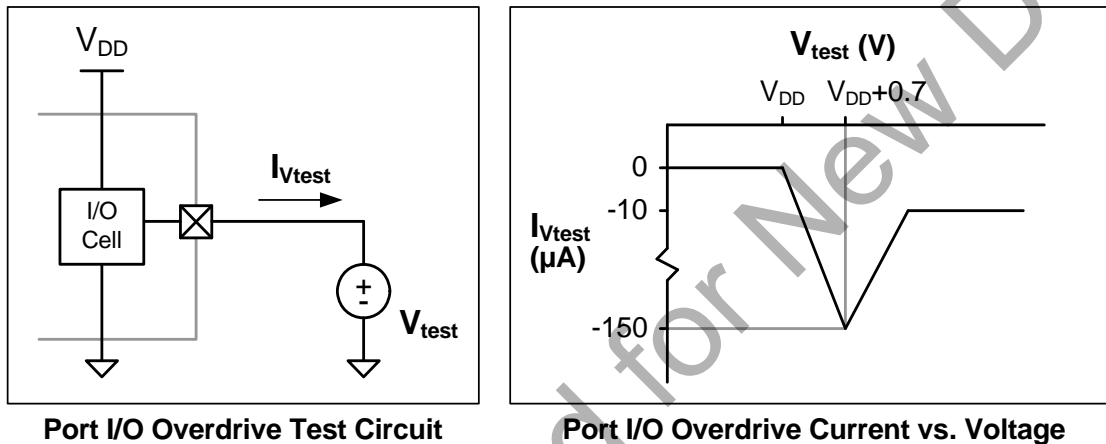

Figure 28.3. Port I/O Overdrive Current
**Important Note:** In a multi-voltage interface, the external pull-up resistor should be sized to allow a current of at least 150  $\mu\text{A}$  to flow into the Port pin when the supply voltage is between  $(V_{DD} + 0.6\text{V})$  and  $(V_{DD} + 1.0\text{V})$ . Once the Port pin voltage increases beyond this range, the current flowing into the Port pin is minimal. Figure 28.3 shows the input current characteristics of port pins driven above VDD. The port pin requires 150  $\mu\text{A}$  peak overdrive current when its voltage reaches approximately  $(V_{DD} + 0.7\text{V})$ .